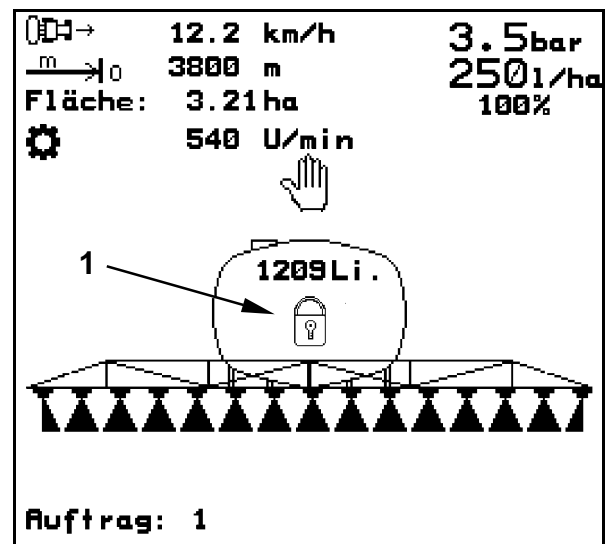

Fig. 110
- The swing compensation is locked (Fig. 109/1), when the display of **AMATRON** + shows the closed lock symbol (Fig. 110/1).
When the swing compensation is unlocked the display of **AMATRON** + shows the closed lock symbol (Fig. 110/1).